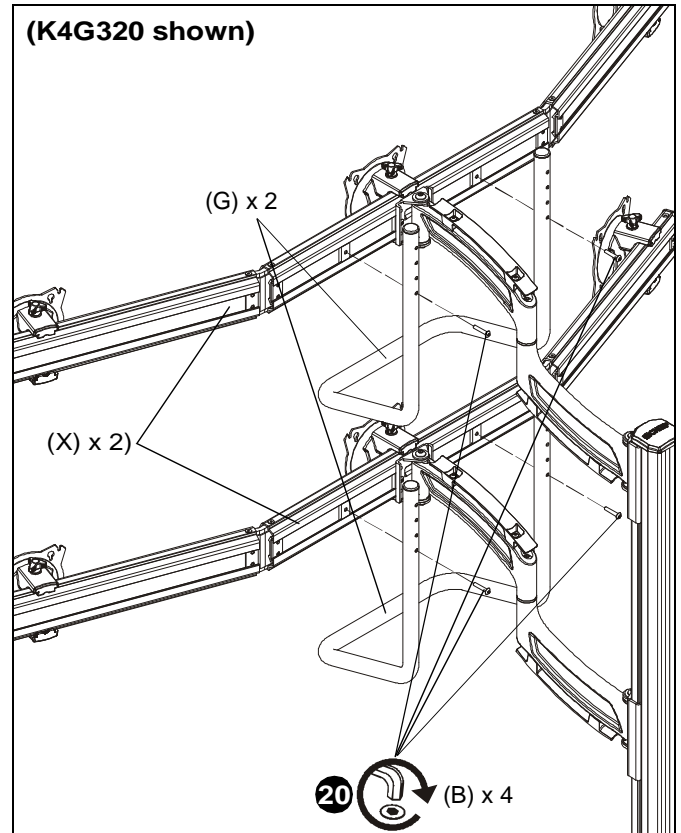

Figure 7
13. Use four #10-32 x 1" button head cap screws (B) to secure two handles (G) to array arms (X). (See Figure 7)